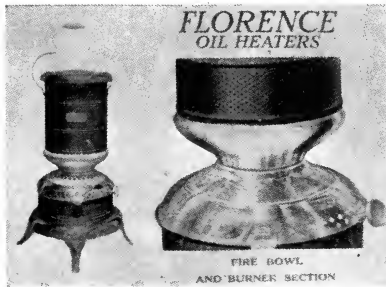

FIG. 43. Oil heater.
84. Kerosene Heaters. Kerosene heating stoves have burners like those used on kerosene cook stoves. (See Chapter III.) Surrounding, or about, the burner is a jacketed air space. Here air is heated and rises to the upper part of the room while fresh air from the lower part of the room is drawn thru the jacket. Some heat is also given off by radiation. Fig. 43 shows a picture of an oil heater.